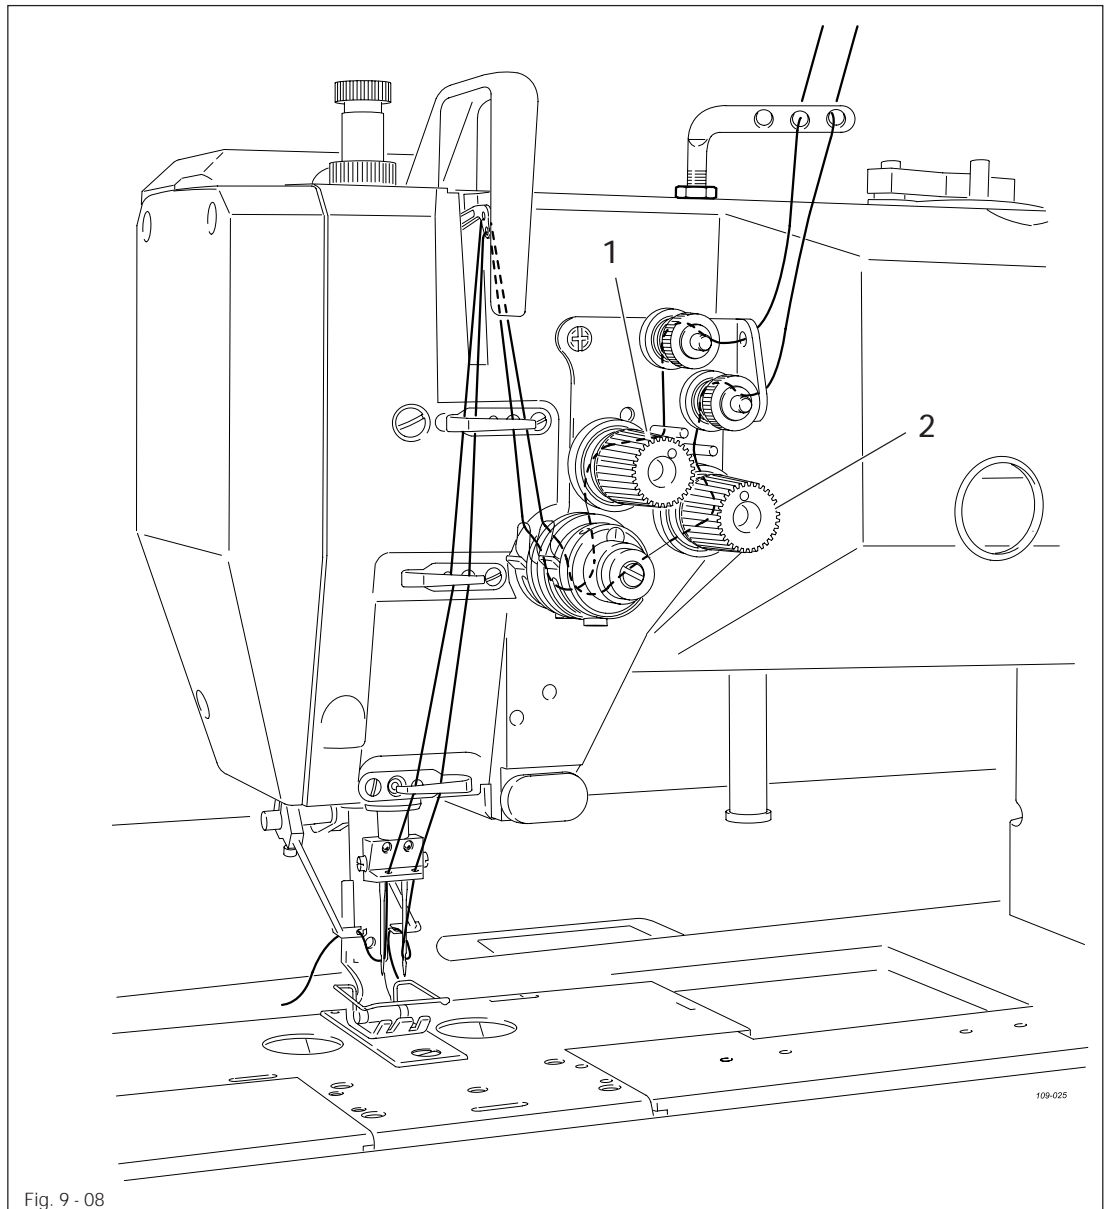

Fig. 9 - 08
- Thread the needle thread as shown in Fig. 9 - 08.